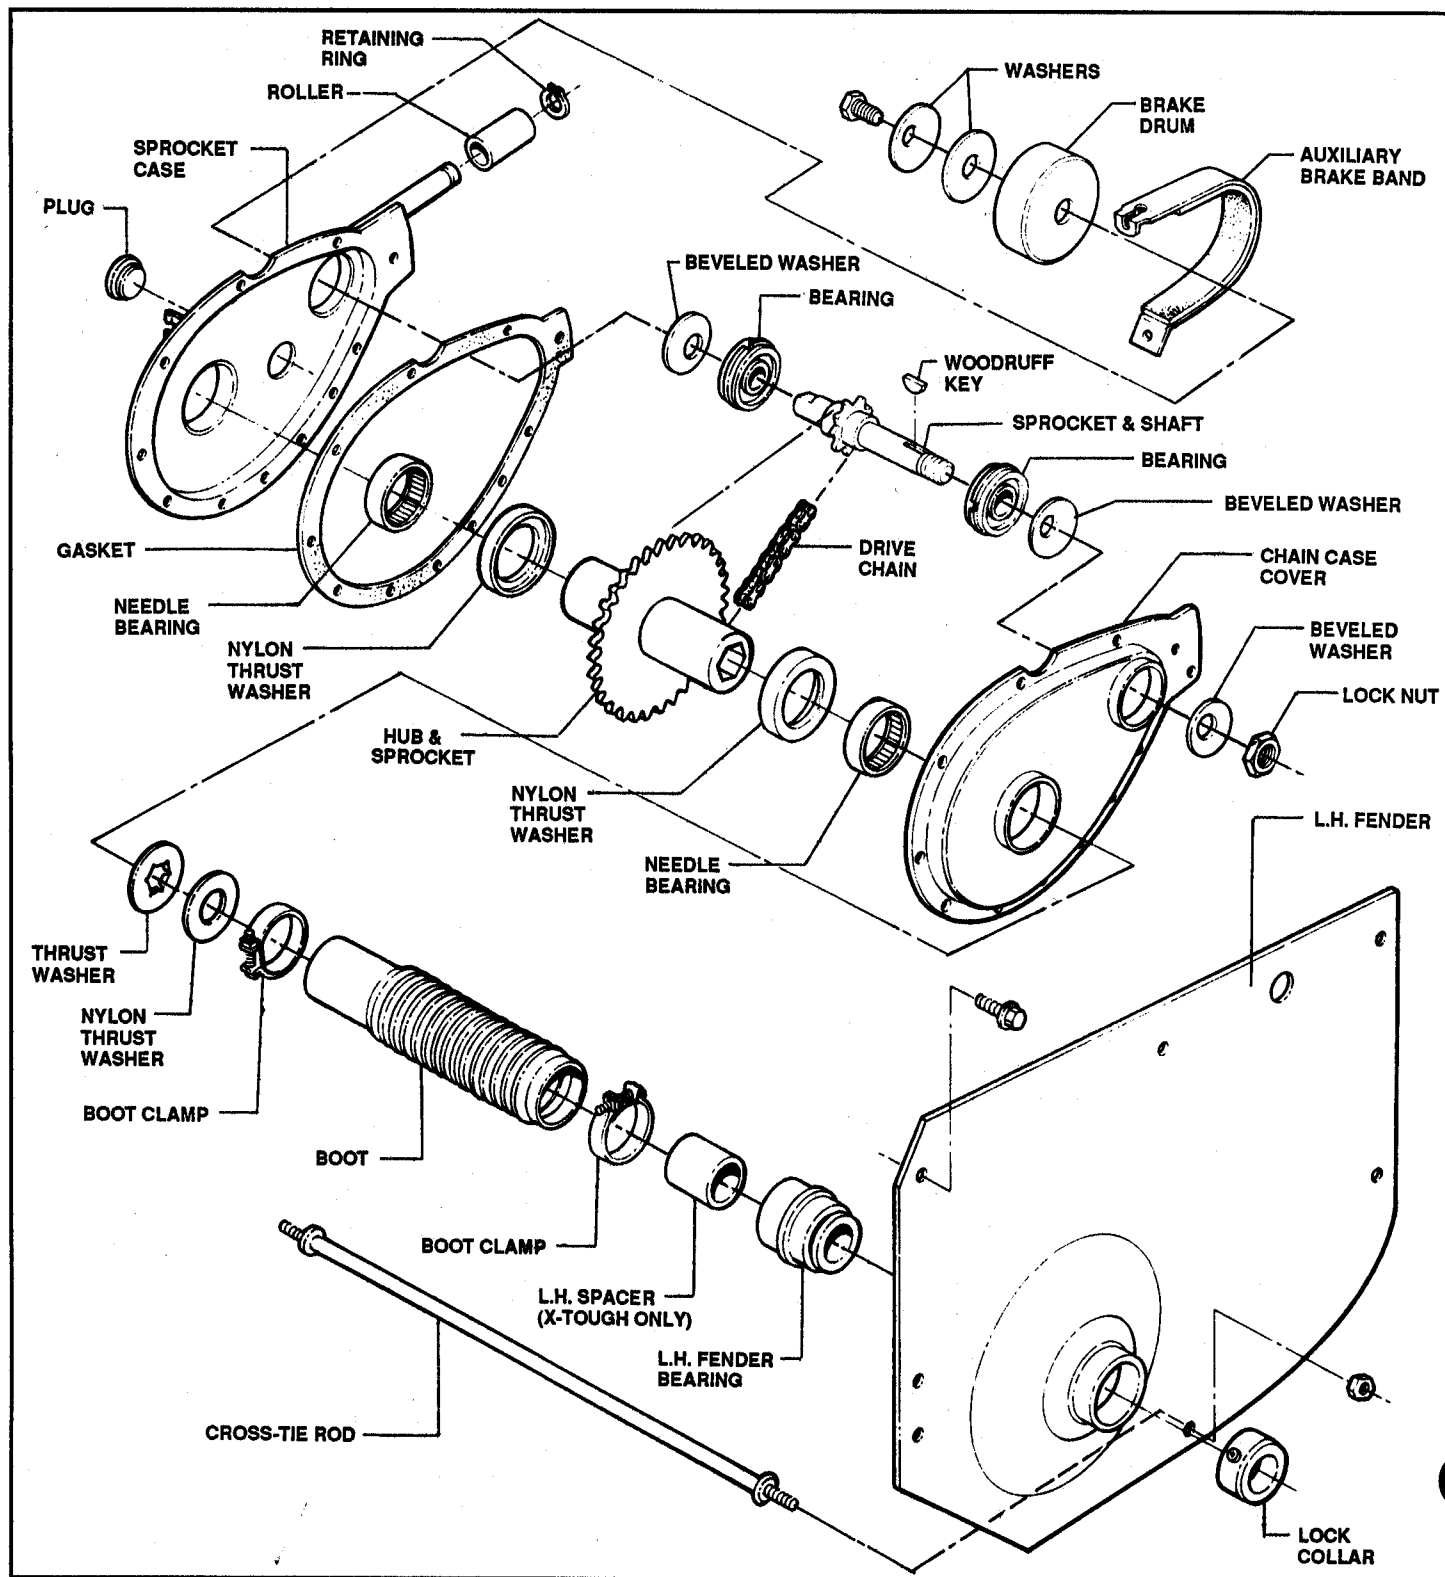

FIGURE 4.33
1. Remove auxiliary brake hub (MODELS 4 & 5), driven disc hub, washers, woodruff key, brake lever and the 10 self-tapping screws. See Figure 4.33.